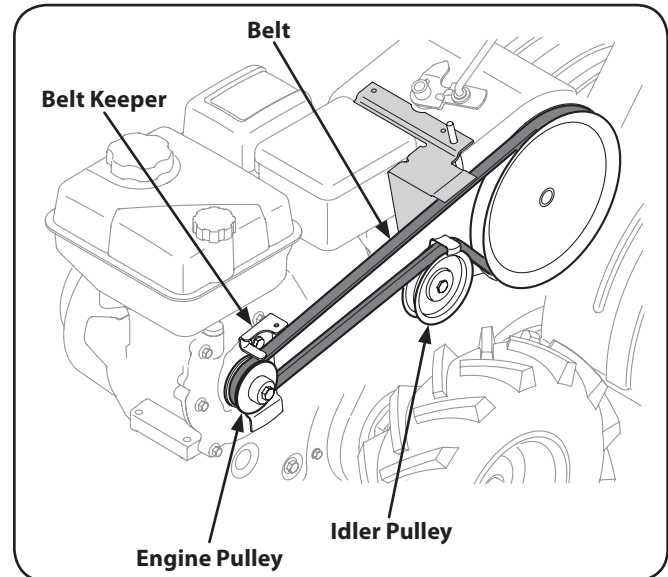

Figure 1-2
4. Remove the belt keeper assembly located behind the engine pulley by removing the two hex bolts and lock washers. See Figure 1-2.
5. Remove the idler pulley by removing the bolt and nut. See Figure 1-2.
6. Remove the old belt and install the new belt. Follow the instructions in reverse order to re-install the belt keeper and belt cover. See Figure 1-2.